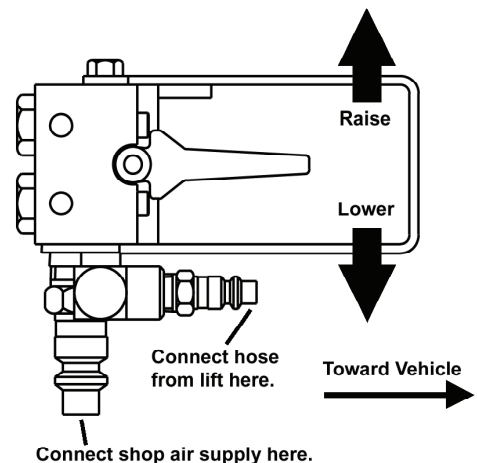

Figure 4
8. Position yourself at the front or rear of the vehicle so both lifts are visible. Face the vehicle and hold the air control unit with the air control levers pointing toward the vehicle and the quick couplers on the underside of the air control unit. (See figure 4 for orientation).
9. Connect the air hose from the lift on your right to the right side of the air control unit. Connect the air hose from the lift on your left to the left side of the air control unit (see Figure 4 for connections).
10. Connect the air supply (145 psi max) to the air inlet port of the air control unit (see Figure 4 for connection).
5. Connect the air hose from the lift on your right to the right side of the air control unit and the air hose from the lift on your left to the left side of the air control unit (see Figure 4).
6. Connect the air supply to the air inlet port of the air control unit (see Figure 4).